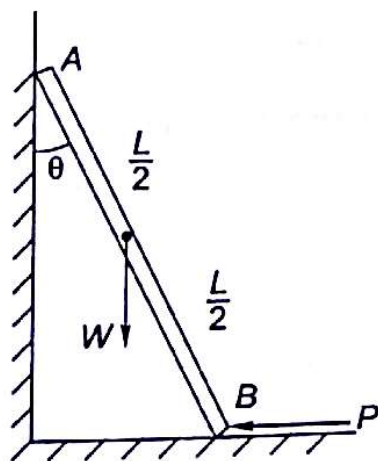

Fig. 9.23
9.1 Using the principle of virtual work, find the magnitude of horizontal force P applied at B of the bar is in equilibrium as shown in Fig. 9.23.